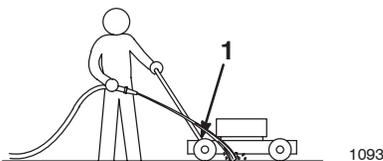

Figure 16
3. Hold the running water at handle level and direct the water to flow on the ground just in front of the **right rear tire** (Fig. 16).